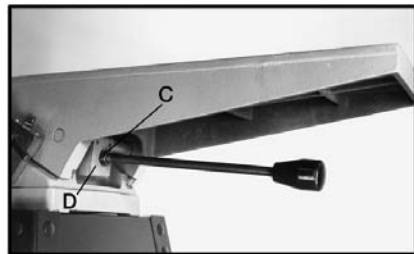

Fig. 13
3. Turn and tighten locknut (C) Fig. 13, against block (D).